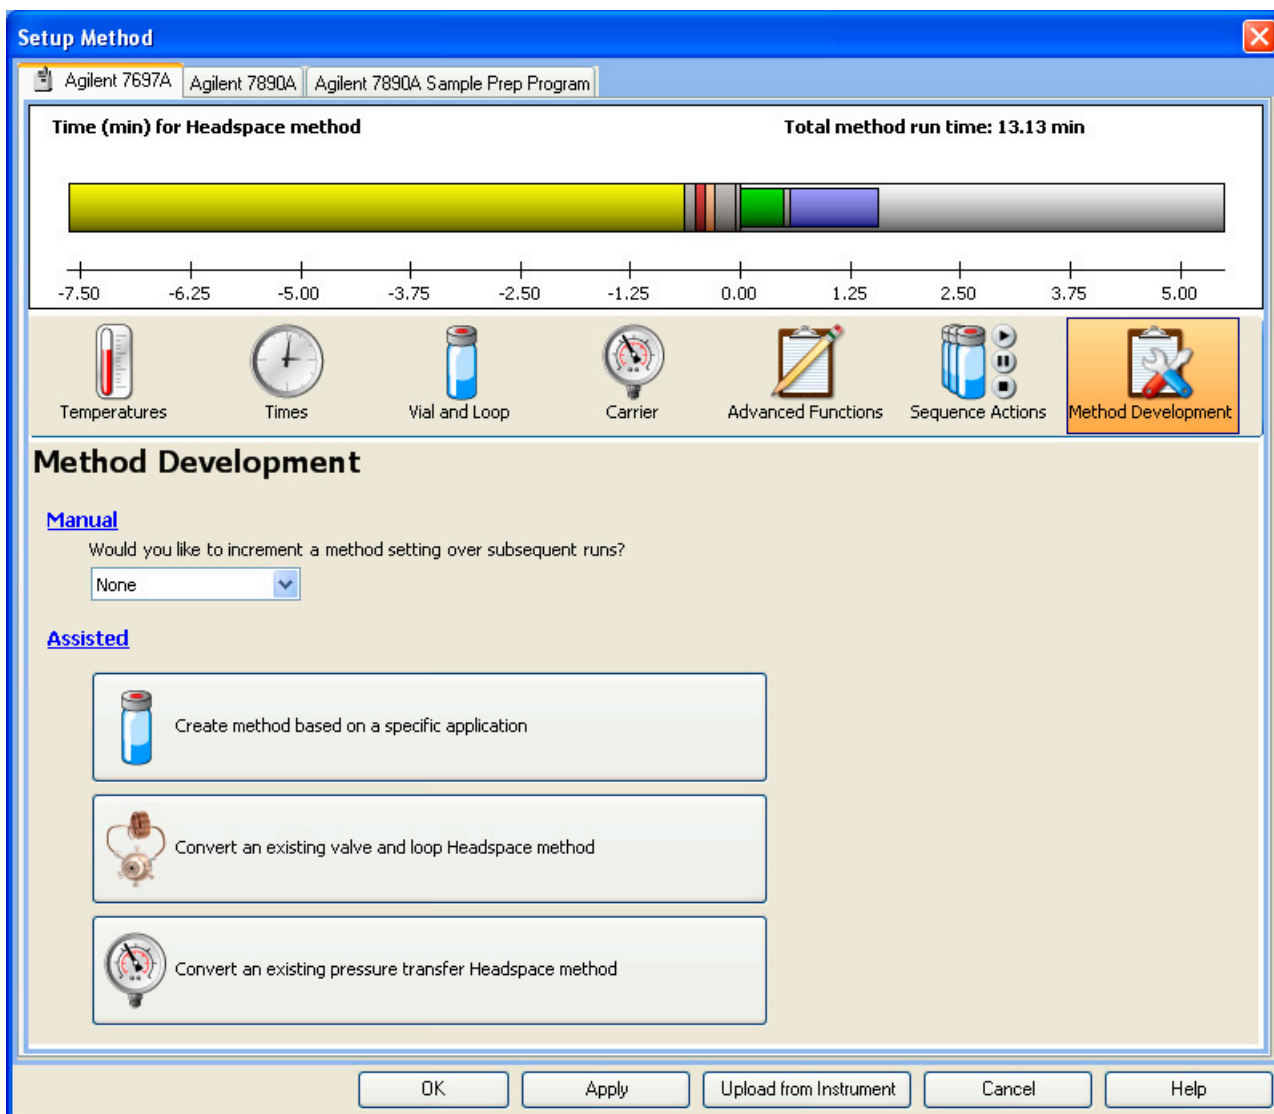

**Figure 20** Setting the Method Development parameters
- 9 Use **Method Development** (Figure 20) when developing new methods. Wizards are provided here to help convert existing methods. Refer to the software help for more information.